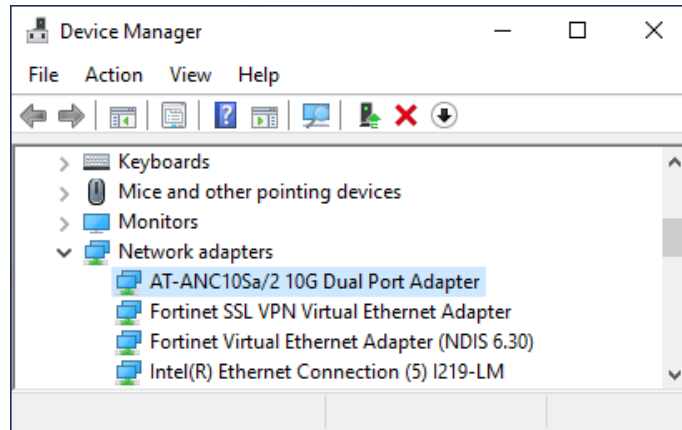

Figure 12. Device Manager Window - Network Adapters
3. Double-click **AT-ANC10Sa/2 (or AT-ANC10T/2) 10G Dual Port Adapter**. Refer to Figure 12.